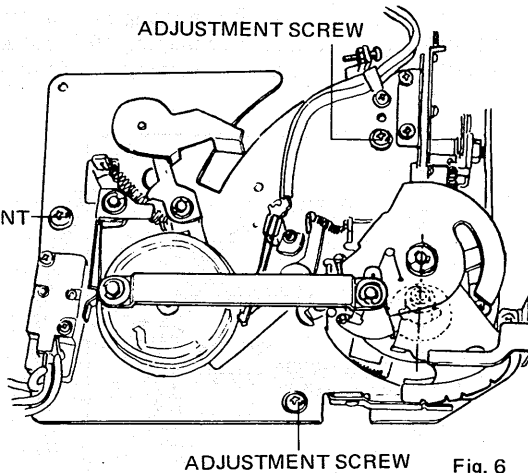

Fig. 6
3. Refer to Fig. 6. Loosen the three adjustment screws, adjust sub-panel assembly so that tonearm shaft and function plate shaft are in exact alignment. Tighten adjustment screws firmly.